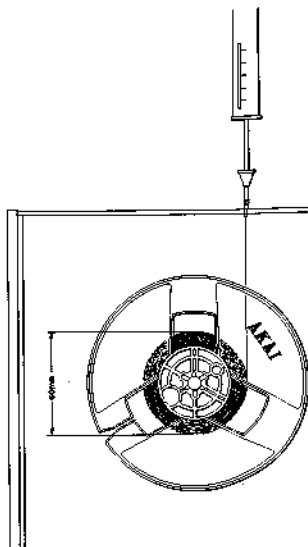

Fig. 17
- 1) As shown in Fig. 17, use a 610 mm diameter tape wound on a 5" reel and measure the brake tension with a tension gauge. Ideal brake tension is from 300 to 370 grams.